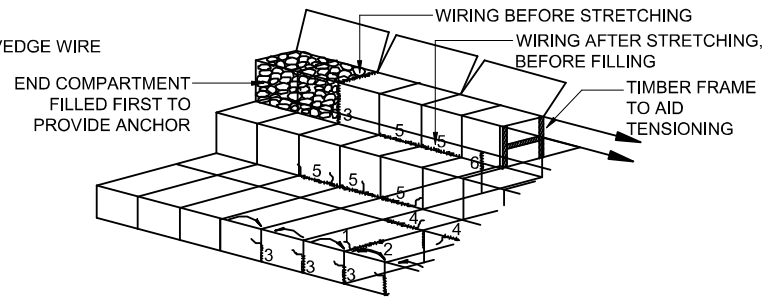

FIGURE 5
2. ONLY ASSEMBLED BOXES, OR GROUPS OF BOXES, SHALL BE POSITIONED IN THE STRUCTURE. THE SIDE OR END, FROM WHICH WORK IS TO PROCEED, SHALL BE SECURELY LACED TO COMPLETED WORK AT ALL DIAPHRAGM POINTS (FIGURE 5), OR ANCHORED BY RODS DRIVEN INTO THE GROUND AT THESE POSITIONS. THE RODS MUST BE SECURED AND REACH AT LEAST TO THE TOP OF THE GABION BOX.
3. STRECH THE OPPOSITE SIDE OF THE BOX OR SECTION BY INSERTING BARS INTO THE BOTTOM CORNERS AND LEVERING THEM FORWARDS BY MEANS OF A WIRE STRAINER OR WINCH. THE TOP AND BOTTOM ARE THEN KEPT STRETCHED IN THIS WAY UNTIL THE GABION HAS BEEN FILLED. WHILE THE GABION IS BEING STRETCHED, ENSURE THAT THE OPPOSITE WIRING OR ANCHORING HAS BEEN PROPERLY CARRIED OUT AND IS NOT PULLING APART OR COLLAPSING (FIGURE 5). THE NEXT STEP IS TO WIRE ALL THE OTHER SIDES AND ENDS OF THE STRETCHED SECTION TO ADJOINING ALREADY FILLED GABIONS (FIGURE 5). THE STRONG INTER-CONNECTION OF ALL UNITS IN A GABION STRUCTURE IS AN IMPORTANT FEATURE OF THE TECHNIQUE AND IT IS THEREFORE ESSENTIAL THAT THE WIRING IS SECURE.